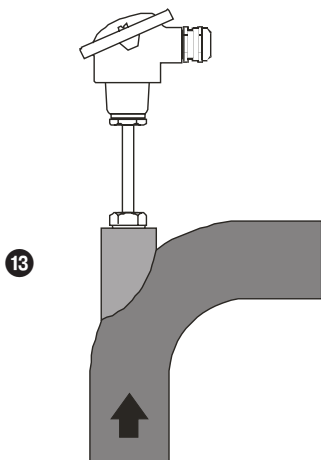
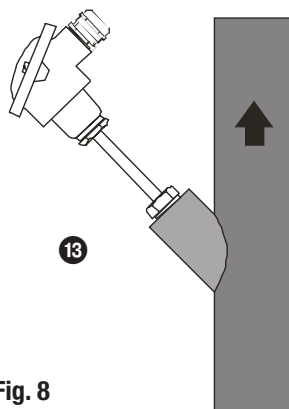

Fig. 7
Fig. 8
- To install the temperature sensor in a pipe, weld the elbow (13) onto it. This ensures that the temperature sensitive part (2), (6) of the temperature sensor is immersed in the fluid against the flow direction **Fig. 7 and Fig. 8**